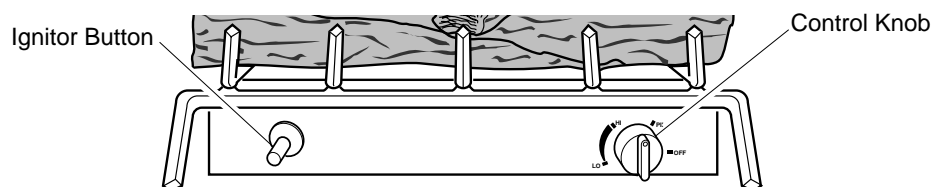

Figure 20 - Control Knob and Ignitor Button Location
4. Wait five (5) minutes to clear out any gas. Then smell for gas, including near the floor. If you smell gas, STOP! Follow "B" in the safety information on page 21. If you don't smell gas, go to the next step.
5. Slightly depress and turn control knob counterclockwise  to the PILOT position. Keep control knob pressed in for five (5) seconds (see Figure 20, page 21).